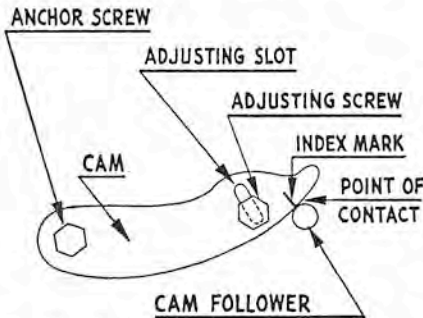

Fig. E9—To synchronize the throttle linkage with magneto advance, index mark on cam must register with cam follower as throttle valve starts to open.
control lever to position between the dots on control quadrant (approximately the "Slow" position). Move free end of cam until it contacts follower at index mark as shown in Fig. E9, and just begins to open carburetor throttle valve. Tighten the cam retaining screws; then, recheck to make sure that throttle valve starts to open as speed control lever moves past the dots on quadrant.
Fisherman, Fleetwin, Sportwin & Fastwin. Hand grip rotates shaft (70—Fig. E10) and pinion (72) which is meshed with gear (75). Link (L) is connected to gear (75) and armature plate (A). Rotation of hand grip thus moves armature shaft to advance or retard ignition timing. Cam (C) is attached to lower side of armature plate and is contacted by cam follower roller (30). Movement of the armature plate acts through linkage (15, 16 & 17) to open or close throttle shaft (13). Synchronization is correct when throttle valve just starts to open when index mark on cam is aligned with cam follower (See Fig. E9) and is completely open when timing is fully advanced.
To make the adjustment, remove the cowl and rotate the hand grip until index mark on cam is aligned with follower arm as shown in Fig. E9; then, slightly loosen the cam retaining screws on underneath side of armature plate. Move the cam in or out until all slack is removed from throttle linkage and throttle shaft (13—Fig. E10) just starts to move. Tighten the cam retaining screws at this point. To further check the adjustment, rotate the hand grip to the "Fast" position and check to make sure that throttle valve is fully open.